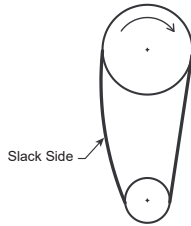

Figure 6
- b. Models 2RB65, 2RB66, 3ATT8, 3ATT9, 3ATU1, 3ATU2, 3ATU3, 4YY13, 4YY14, 4YY15, 4YY16, 4YY17, 5DVL4, 5DV06, 6KWJ9, 16D522, 16D523, 16D524, 16D525, 20FT09, 20FT14, 33X834, 33X835, 33X836: Belts should be tensioned just enough to prevent slippage at full load. Belts should have a slight bow on the slack side while running at full load. See Figure 6.